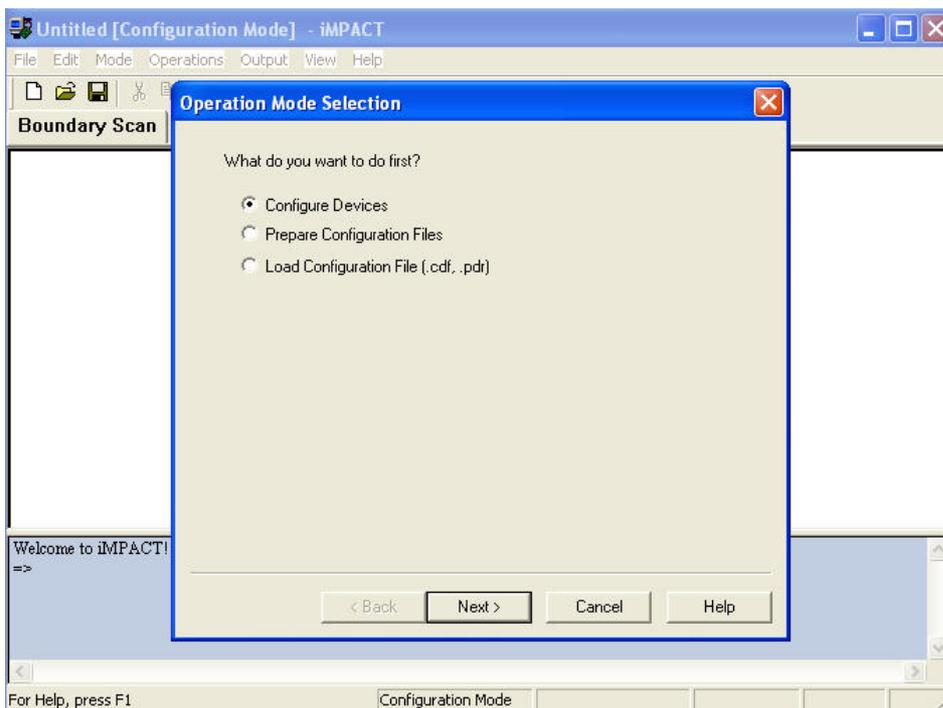

Figure 27: Design Impact - Initial Setup - 1.
1. Go to **Start-Menu/Programs/Xilinx** (or E:\shortcurs\xilinx) and run *Program* shortcut. The 'Program' shortcut runs Design Impact software of Xilinx 4.2. A screen as shown in Figure 27 appears.